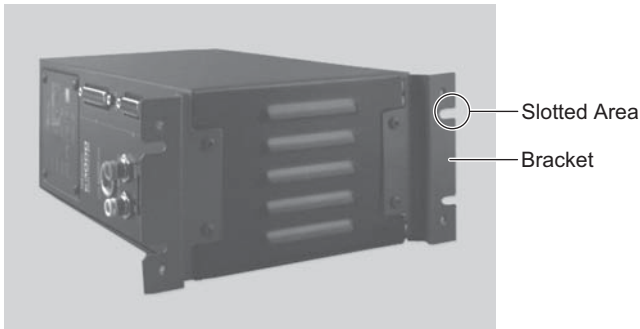

Fig. 15
- The Bracket can be installed on the " Bottom Mounting (Fig. 15) " and " Rear Mounting (Fig. 16) " of the CONTROLLER.
(1) Attach the Installation Brackets (2pcs.) using the provided mounting screws. (4pcs.)
(2) Attach the CONTROLLER (Bracket's Slotted Area) to the machine using the provided mounting screws.